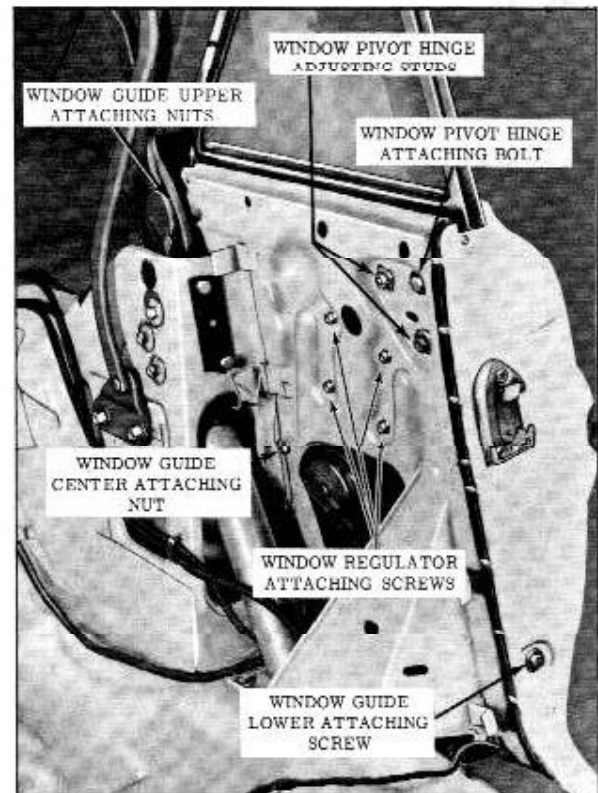

Fig. 17-60 Rear Quarter Hardware ("67" Styles)
4. Remove window pivot bolt. (Fig. 17-60)
1. To adjust the limit of the rear quarter window up travel, loosen the window guide upper attaching screws. (Fig. 17-60) Adjust upper stop to desired position and tighten guide attaching screws.
- a. Up or down or fore or aft window adjustment: Loosen pivot bolt and both adjusting stud nuts. (Fig. 17-60) Position window as required; then tighten pivot bolt and stud nuts.
- b. In or out adjustment of top of window: Loosen lower adjusting stud nuts and slightly loosen rear stud nut. Adjust lower stud in or out, as required, then tighten both stud nuts. (Fig. 17-60)
- c. In or out adjustment of rear of window: Loosen pivot hinge rear adjusting stud nut and loosen slightly the lower adjusting stud nut. Loosen window guide upper attaching nuts and center stud nut. (Fig. 17-60) Adjust rear adjusting stud in or out, as required, then tighten both stud nuts. Adjust window guide for proper alignment with window and tighten upper attaching nuts and center stud nut.
5. Remove regulator attaching screws. (Fig. 17-60) Disengage regulator lift arm roller from window lower sash channel cam and remove regulator assembly through access hole.
3. Remove window guide upper and center attaching nuts and lower attaching screw. (Fig. 17-60) Disengage window guide from behind window frame and remove guide through large access hole.